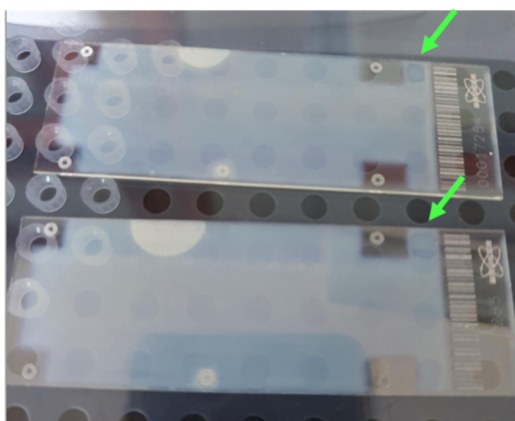

Figure 5. Area for MS calibration, with example of Peptide Calibration Standard II spread in the area.
- The top right area of the slide is used for MS calibration (Figure 5). This area is approximately 5 mm x 5 mm in size. Please spot 0.5-1.0 μ l of your application-appropriate calibrant in the position and spread over as much of the area as possible.